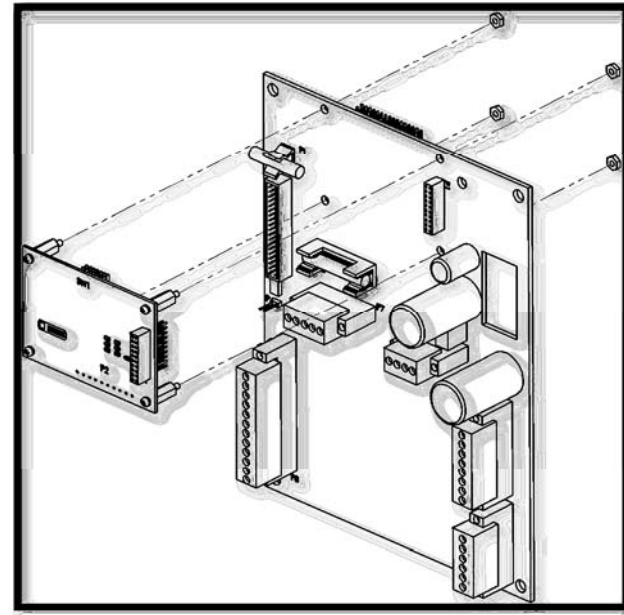

Figure 9
3. Carefully install the 4-20mA Input Card onto the Terminal Card such that the long pinned header on the 4-20mA Input Card mates with the socket P1 on the Terminal Card. Be careful not to bend any pins while doing this. Continue to apply pressure to the 4-20mA Input Card until the 4 standoffs fit into the holes in the PCBA. See Figure 9.
4. On the back side of the Terminal Card, install 4 hex nuts onto the standoffs to hold the 4-20mA Input Card in place. Tighten to 4 in*lbs. Do not over tighten or the standoffs may break. See Figure 9.